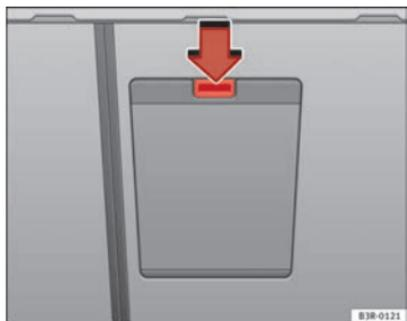

Fig. 116 Detailed view of the rear of the rear backrest: Ski bag cover
- Press the release catch for the ski bag cover (arrow) and fold the cover downwards ⇒ Fig. 116.